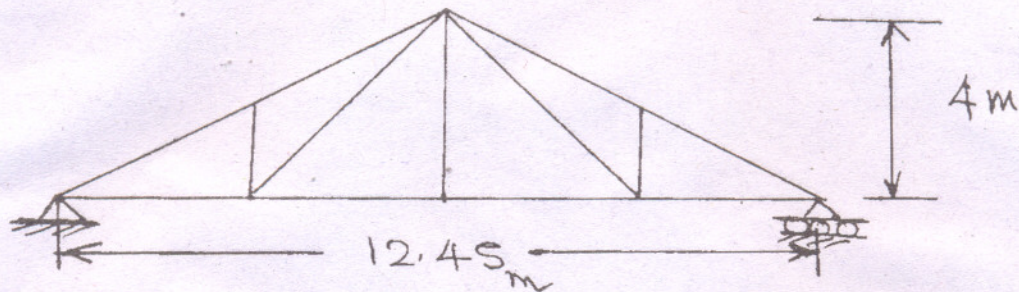

Fig. 1
- Q8)** Design a steel roof truss as shown in Fig 1 for a clear span of 12 m. The truss is supported over masonry columns 45 cm × 45 cm. The trusses are placed 3 m c/c and support galvanised iron sheet on rafters and steel purlins. The rise of the truss is  $\frac{1}{3}$  of span and the wind normal to the roof surface is 1500 N/m2.